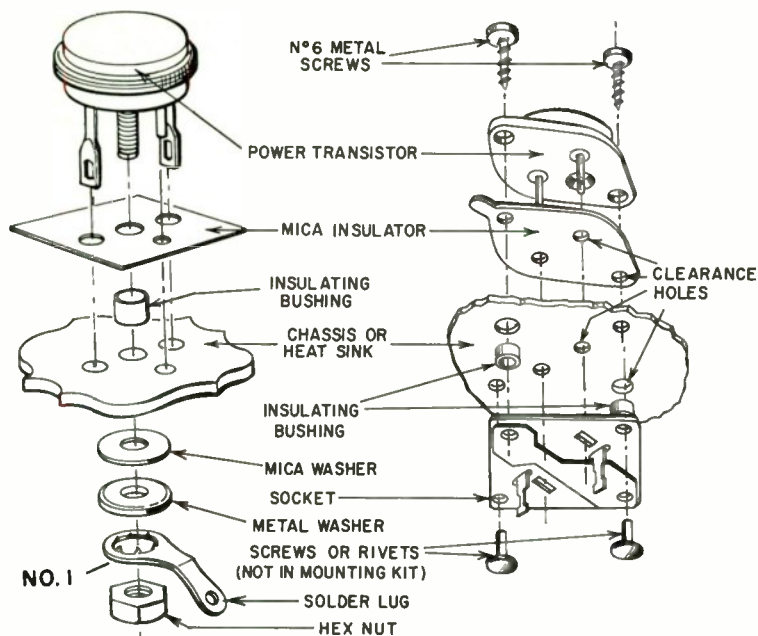

Fig. 415. Two types of power transistors. Power-transistor mounting must insulate for electricity but conduct heat away from the case.
1. Auto radios must be capable of supplying a much greater amount of volume than a portable. The auto receiver works under conditions of greater electrical noise pickup and ordinary sound noise. Fortunately, auto batteries can supply large amounts of current — far greater than that of small penlight batteries or mercury batteries. Special output transistors are used, designed to work with large amounts of current. Transistors of this type are shown in Fig. 415.